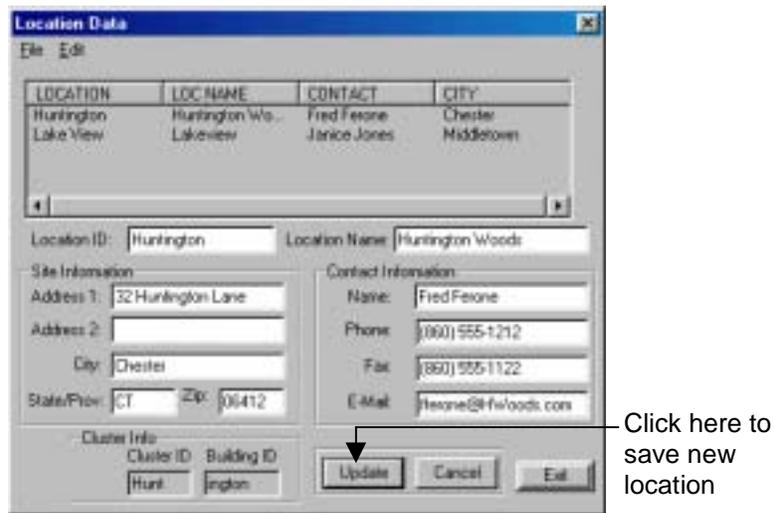

Figure 3.3 Saving New Location
4. Once all information has been entered correctly, click **Update** to save the information into the database (Figure 3.3).